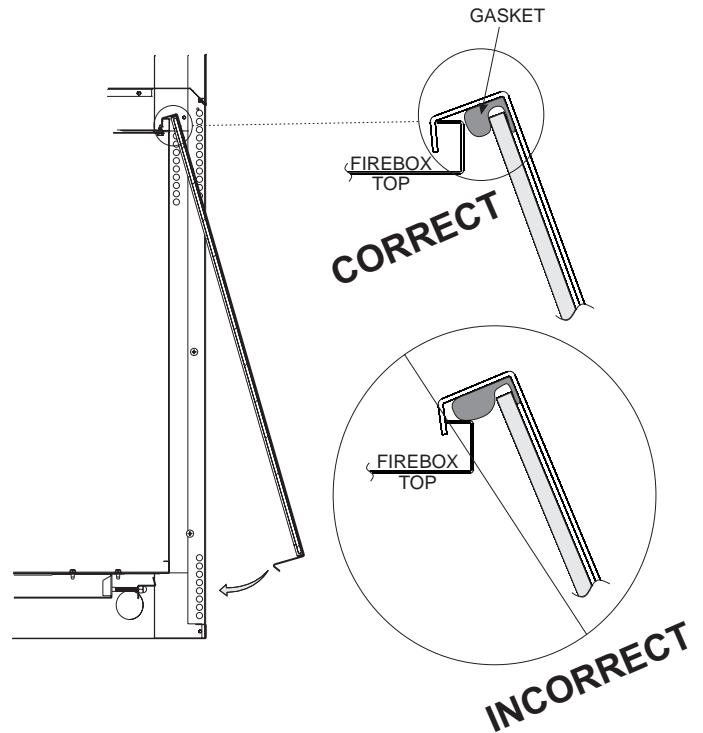

Figure 78
7. Reinstall glass front by hanging the top of the frame on top of the firebox, making sure the gasket at the top is positioned in front of the firebox flange and not on top **See Figure 78.**
1. When installing the glass door, make sure that the door top flange is hooked over the firebox top flange as illustrated in the "Correct" view in **Figure 78**.
Important: Do not allow the gasket across the top of the door to roll up on top of the firebox flange as shown in "Incorrect" view in Figure 78.